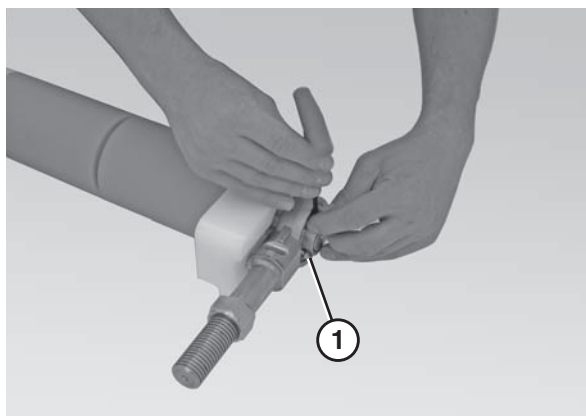

Figure 58
8. Use a 4 mm hex wrench to loosen the bearing fasteners (Figure 58, item 1).